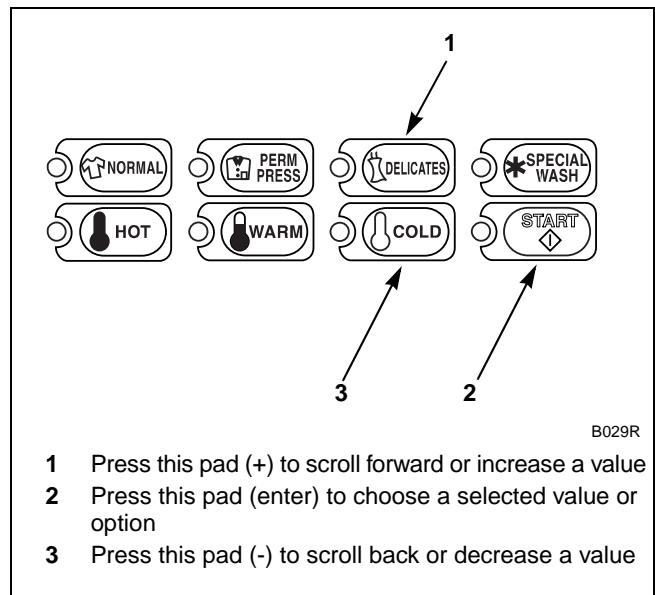

Figure 71
5. Press the DELICATES (+) or the COLD (-) keypad to increase or decrease the current extraction speed displayed in the VFD to the desired extraction speed. Refer to *Figure 71*.